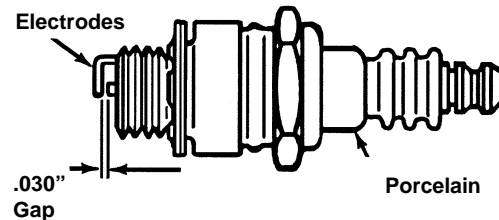

Figure 20
- Replace the spark plug if electrodes are pitted, burned, or the porcelain is cracked. See Figure 20.
- Clean the spark plug and reset the gap to 0.030" at least once a season or every 50 hours of operation. See Figure 20.